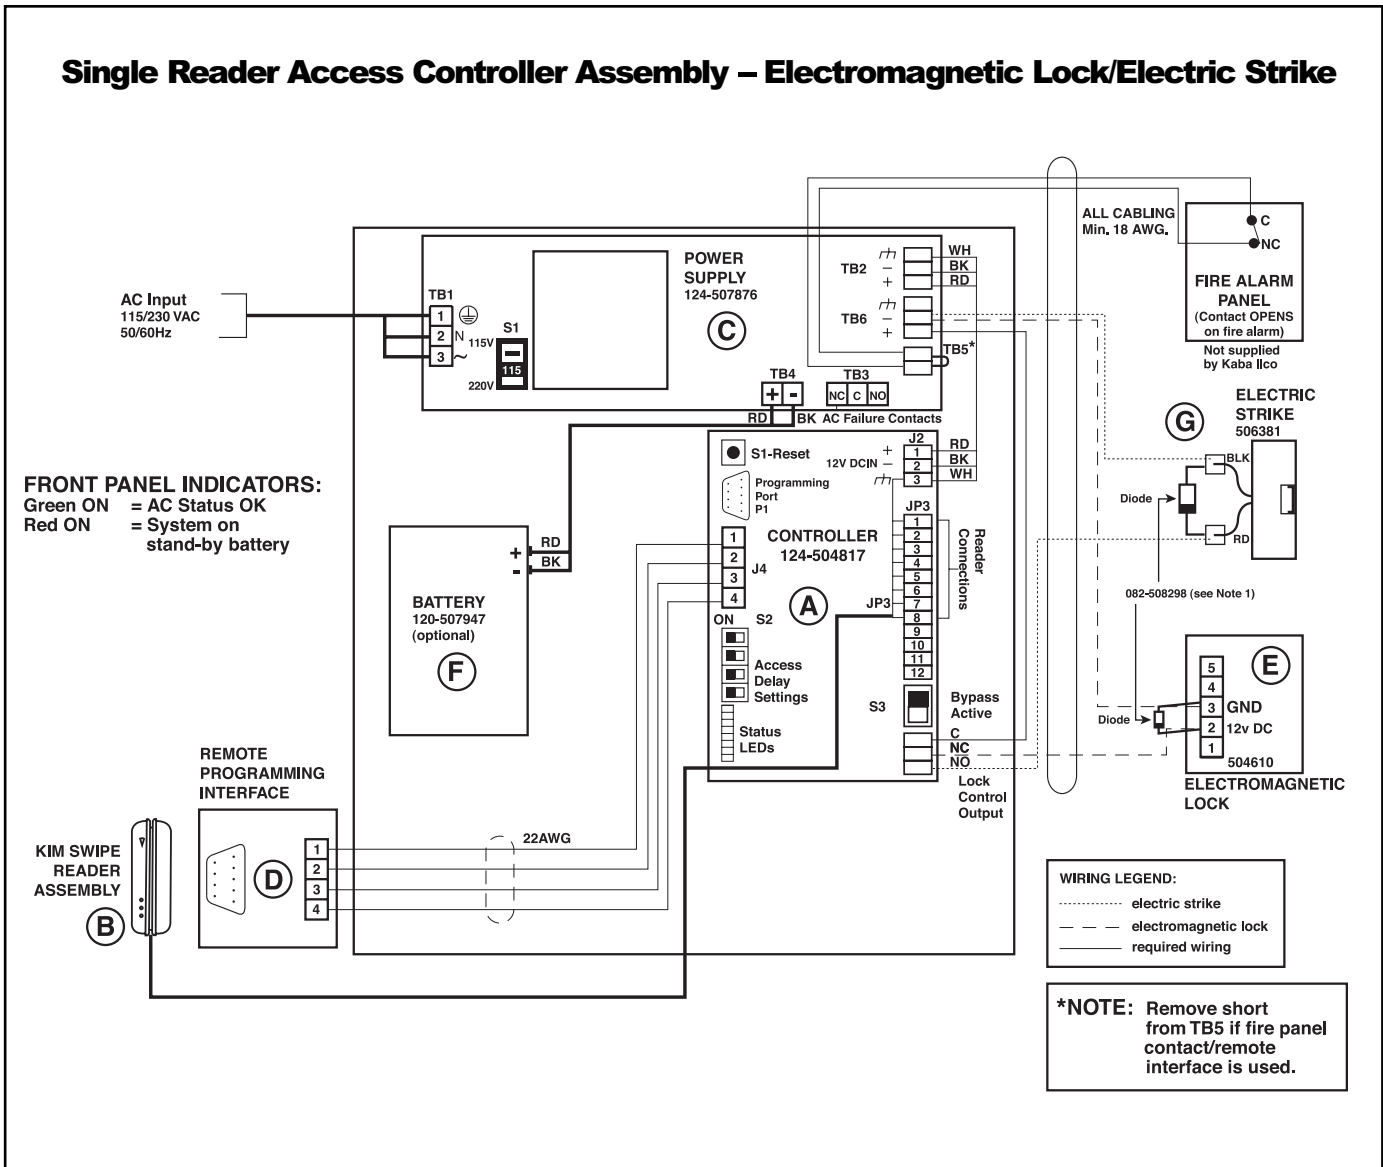
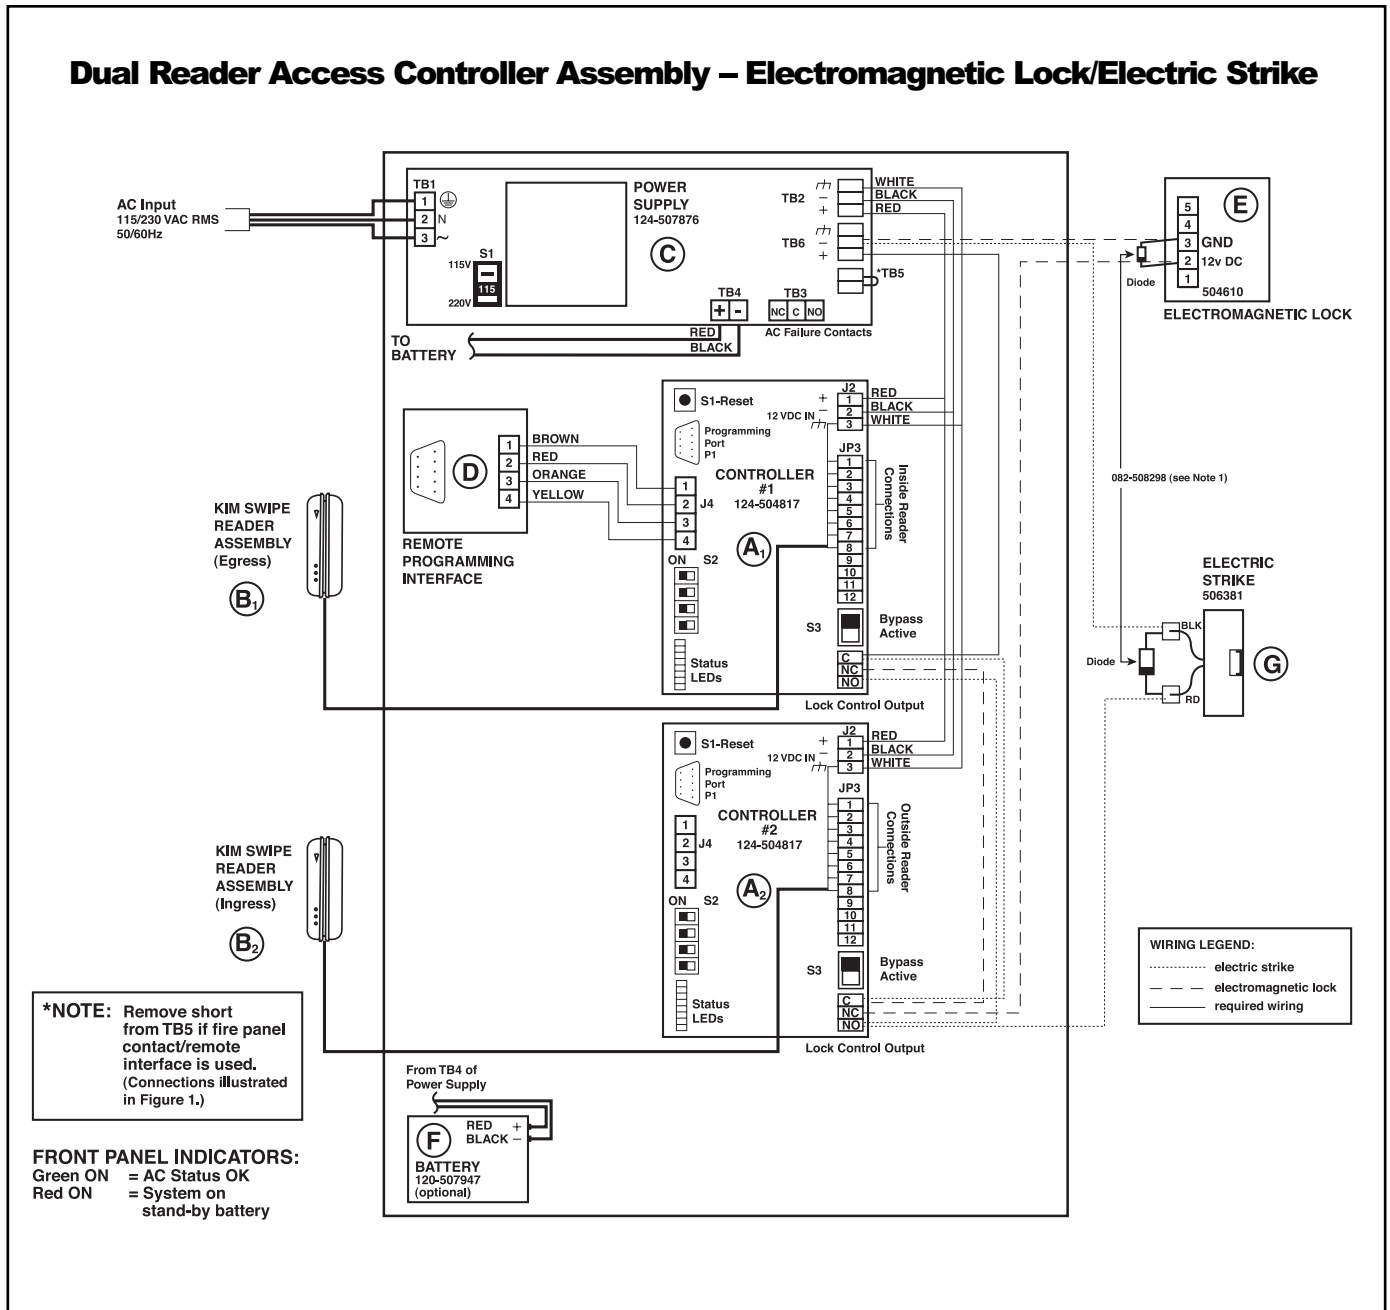
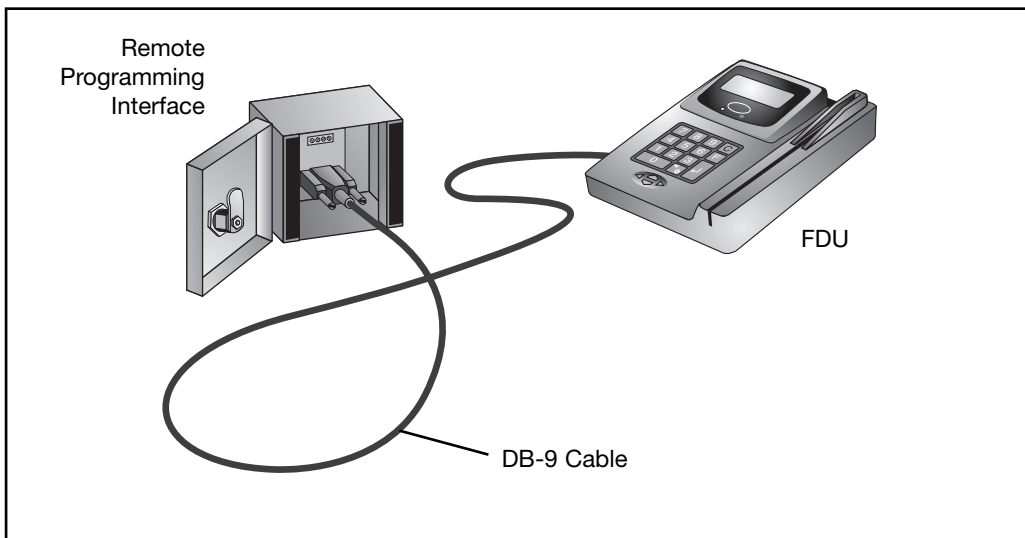

Figure 1
Figure 2
Figure 5. Programming the Card Reader using the Remote Programming Interface
- *For SINGLE Reader Installation, refer to Figure 1 on page 4.*
- *For DUAL Reader Installation, refer to Figure 2 on page 5.*
18. If a battery is being installed, mount the battery bracket in the control panel using 2 screws provided in the battery kit. The battery should be installed with the terminals facing the controller board and positioned closer to the power supply (see Figure 1). Connect the red wire from the TB4 terminal on the Power Supply (C) to the + red terminal on the Battery (F). Connect the black wire from the TB4 terminal on the Power Supply (C) to the - black terminal on the Battery (F). The battery will take 24 hours to fully charge.
1. Link the Front Desk Unit to the DB9 connector (J1) in the remote programming interface box, or to the DB9 connector (programming port P1) on the controller PCB in the control panel. Refer to Figure 1 or Figure 2 for the positions of the J1 and P1 connectors. Refer to Figure 4 or Figure 5 below for an illustration.